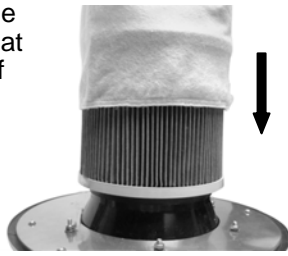

Fig. 14
- Place the dust bag onto the filter cartridge, ensuring that the elastic at the bottom of the bag is at the bottom of the filter. (Fig. 14)